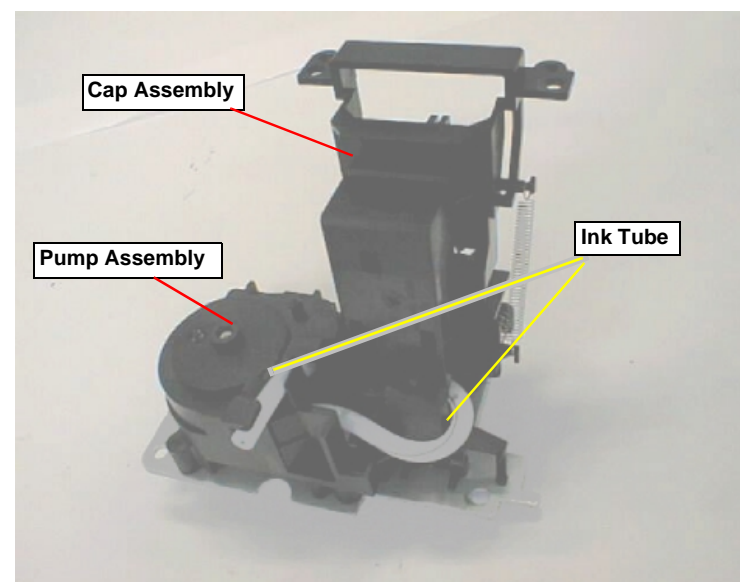

Figure 4-16. Placing the Ink Tube in the Ink System
- Check the ink tube is connected securely to the connect portion of the Cap Assembly. Refer to Figure 4-16.
- Check the ink tube is placed correctly in the Ink System Assembly. Refer to Figure 4-16.